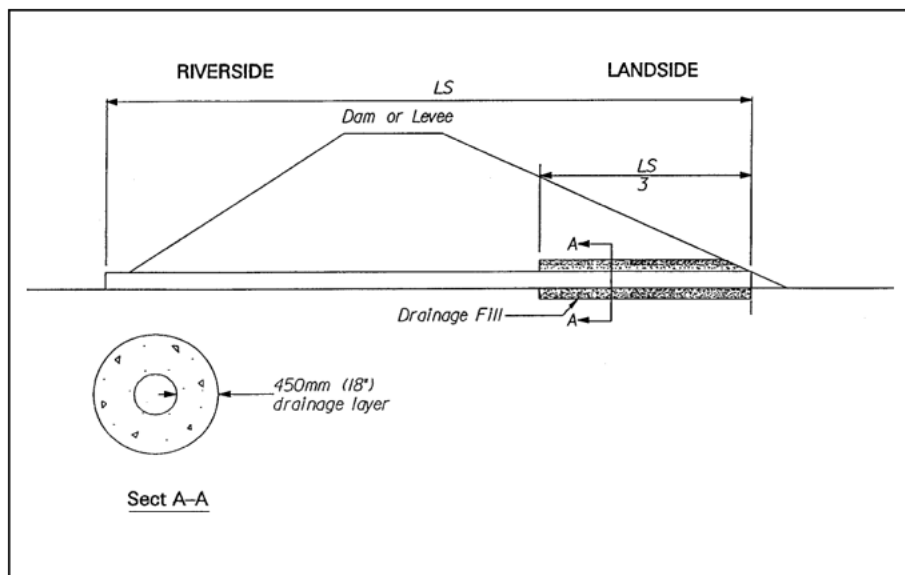

Figure 1-1. Drainage fill along conduit
- Safety Constraint: In accordance with EM 1110-2-1913, a 450 mm (18 in.) annular thickness of drainage fill should be provided around the landside third of any conduit (Figure 1-1).